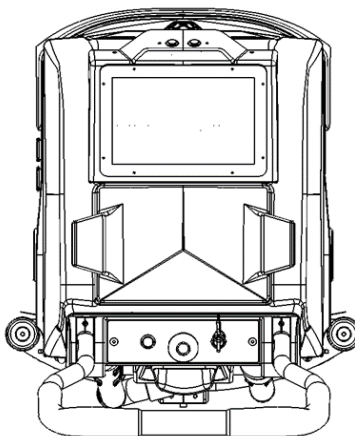

Fig. 3
5. **Verify waste-water hatch is closed:** (Fig. 3).